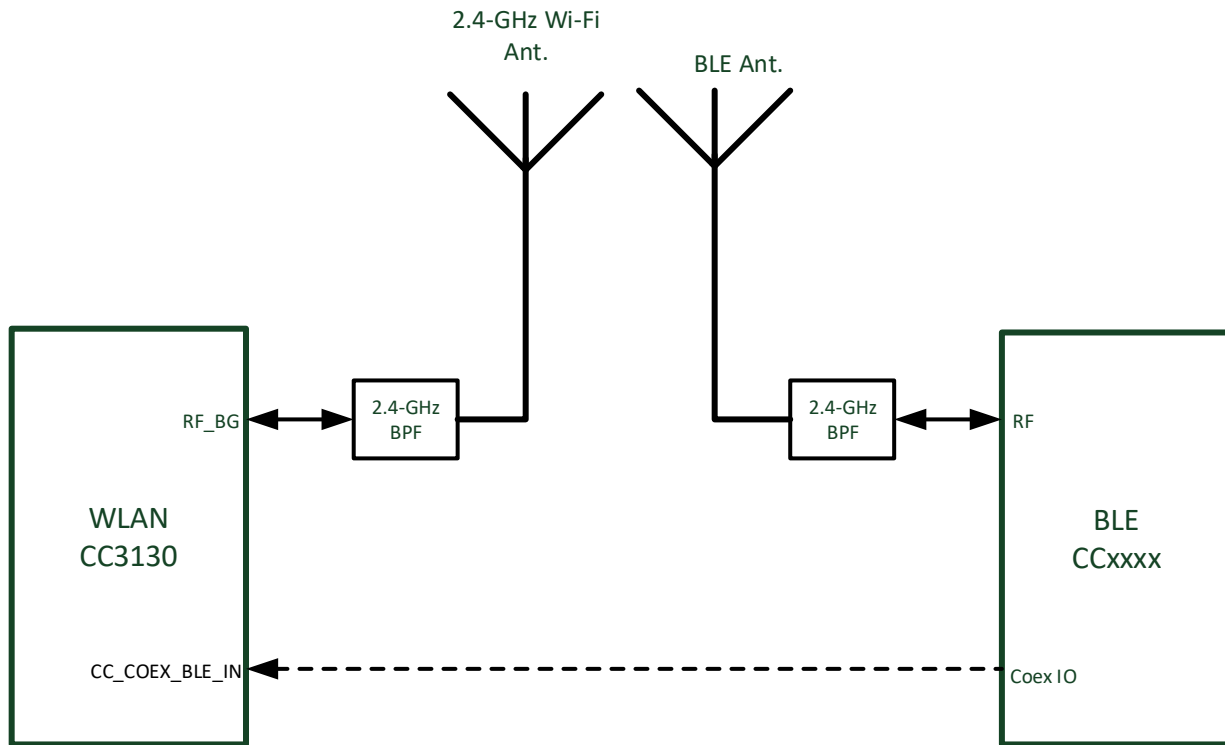

Figure 9-2. Dual-Antenna Coexistence Mode Block Diagram
- in this mode, (see Figure 9-2) the two entities have separate antennas, no RF switch is required, and only a single GPIO (on input from the WLAN perspective).
Figure 9-2 shows the dual antenna implementation of a complete Bluetooth low energy and WLAN coexistence network. Note in this implementation no Coex switch is required and only a single GPIO from the BLE device to the CC3130 device is required.